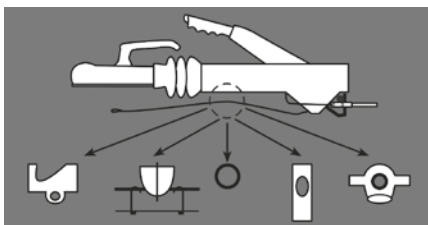

Figure 2 Breakaway Cables Guides.
- Thread the breakaway cable through the breakaway cable guide provided (Fig 2) and connect it to attachment point provided on towing bracket (Fig 1). Please refer to 'Braked Trailers Use of Breakaway Cables' for further details.